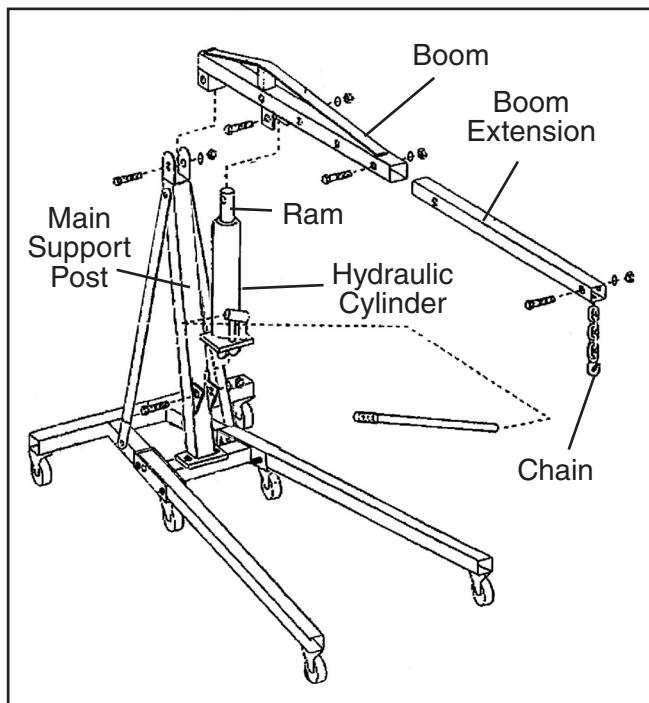

Figure 6. Boom assembly.
5. Attach the bottom of the hydraulic cylinder to the pad on the main support post (**Figure 6**) with one M16-2 x 85 hex bolt, washer, and nut.
6. Install the boom on the top of the main support post (**Figure 6**) with one M18-2 x 110 hex bolt, washer, and nut.
7. While your assistant holds the boom up, connect the ram to the boom (**Figure 6**) with one M16-2 x 70 hex bolt.
8. Insert the boom extension into the boom, making sure that the slot for chain is facing down (**Figure 6**).
9. Select one of the four load rating holes in the boom (**Figure 6**), and secure the boom extension in that rated load position with one M16-2 x 90 hex bolt, washer, and nut.
10. Attach the chain to the end of the boom assembly (**Figure 6**) and secure it in place with one M14-2 x 80 hex bolt, washer, and nut.